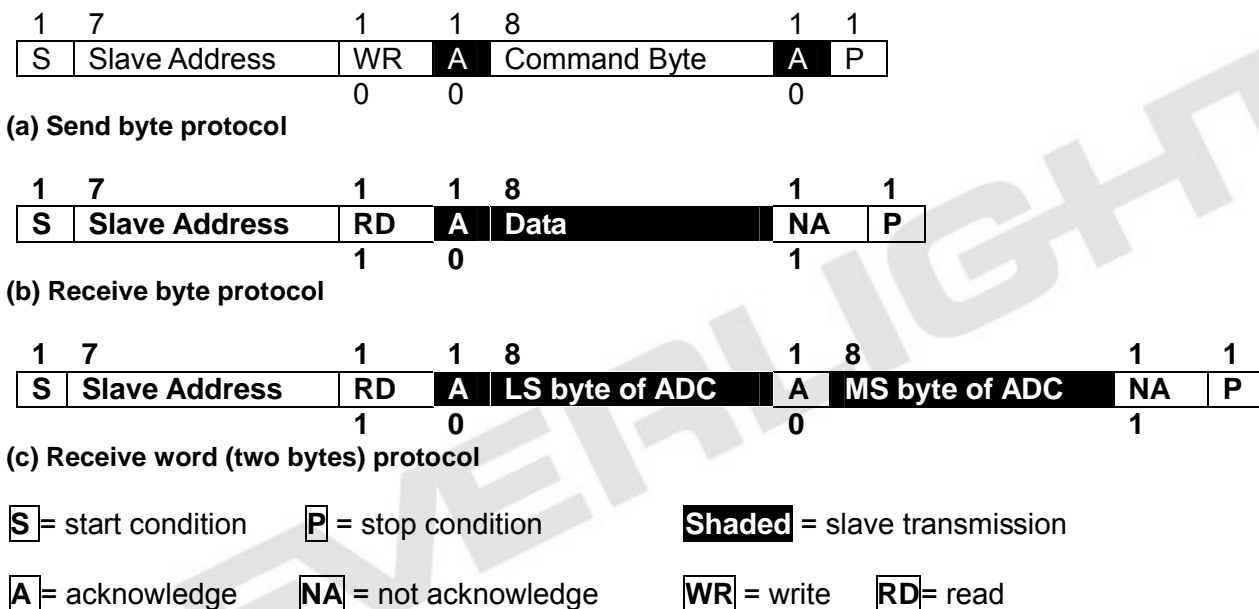

Figure 13 Communication Protocol
The Send Byte protocol allows single bytes of data to be written to the device (see Figure 13-a). The written byte is called the COMMAND byte. The Receive Byte protocol allows one-byte data to be read from the device (see Figure 13-b). Two-byte data can be read by following the Receive Word Protocol shown in Figure 13-c. In Figure 13, the clear area represents data sent by the host (master) and the shaded area represents data returned by the ambient light sensor (slave device).
- (1). After being powered on, the device will initially be in the shut-down mode (default setting).
- (2). To operate the device, issue an Send Byte protocol (see Figure 13-a) with the device address 0x29 followed by a command byte of 0x04 to activate the ambient light sensor.
- (3). I²C master sends a "start integration command" to the slave device by issuing Send Byte protocol with the device address 0x29 followed by a command byte of 0x08.
- (4). After a period of user defined integration time, I²C master sends a "stop integration command" to the slave device by issuing Send Byte protocol with the device address 0x29 followed by a command byte of 0x30.
- (5). To read the ADC conversion result, issue an Receive Word protocol (see Figure 13-c) with the device address 0x29 followed by two-byte reading procedures.
- (6). If the stop integration command is not received by the device, the valid bit (D[15]) will be "0" to indicate that the data is not valid. If there is a valid conversion result available, the valid bit (D[15]) will be set logic high, and the remaining 15 bits will represent valid data from the ADC register.
- (7). Data may be read repeatedly from the ADC register, and although it will remain valid, the ADC register will not be updated until a new complete integration cycle has been carried out. In this cases, the power consumption of the device can be reduced by issue a send Byte protocol with the device address 0x29 followed by a data byte of 1xxx_xxxx.(Binary code)